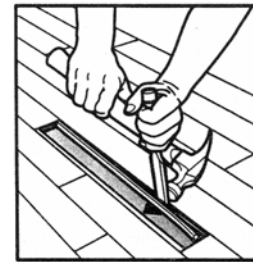

Figure 7-6
- E. Carefully remove nails or staples and tongue-side piece. Avoid damage to adjoining boards. Figure 7-6.